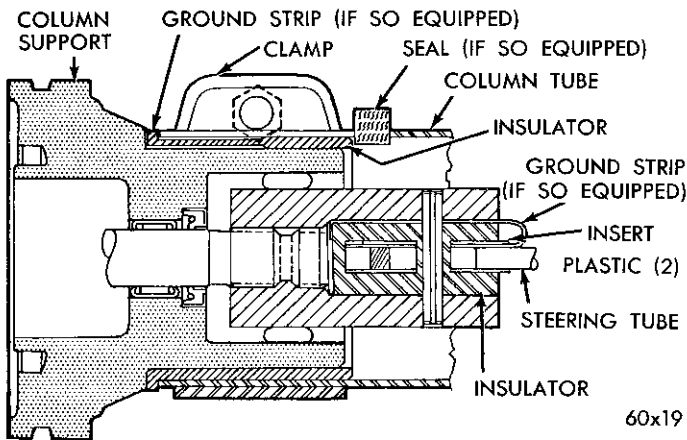

Fig. 23—Jacket Tube and Column Tube (Cross Section)
(16) Disconnect the hydraulic brake line at the master cylinder and the brake tee and remove the line (not necessary on Imperial cars).
(17) Disconnect the pressure and return hoses at the steering gear. Fasten the ends of the hoses above the oil level in reservoir. Cap the ends of the hoses. Cap the fittings on the steering gear.
(18) Slide the jacket tube up and off the steering gear through the driver's compartment. Remove the jacket tube upper spring and retainer. Remove the rubber insulator boot and horn ground strap (copper).
(19) Remove the steering tube coupling pin, two plastic inserts, horn ground strap (copper) (Fig. 23), rubber insulator and upper steering tube.
(20) Remove the gear housing to frame bolts, washers and alignment wedge. Slide the steering gear towards the rear of the car and at the same